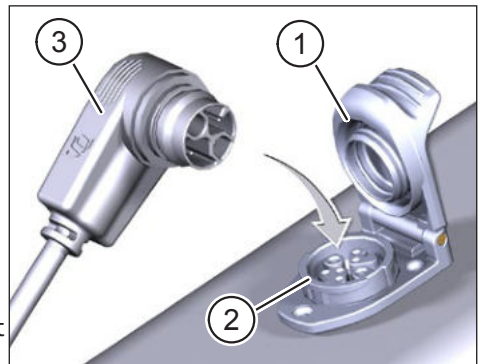

Fig. 1: Battery charging
- ▶ Unfold the cover (pos. 1 in fig. 1) on the charging port (pos. 2 in fig. 1) in the bike frame.
- ▶ Align the charging plug (pos. 3 in Fig. 1) of the charger or Range Extender so that the plug codes of the charging plug and charging port match (see Fig. 1).
- ▶ Insert the charging plug (pos. 3 in Fig. 1) of the charger or Range Extender into the charging port.